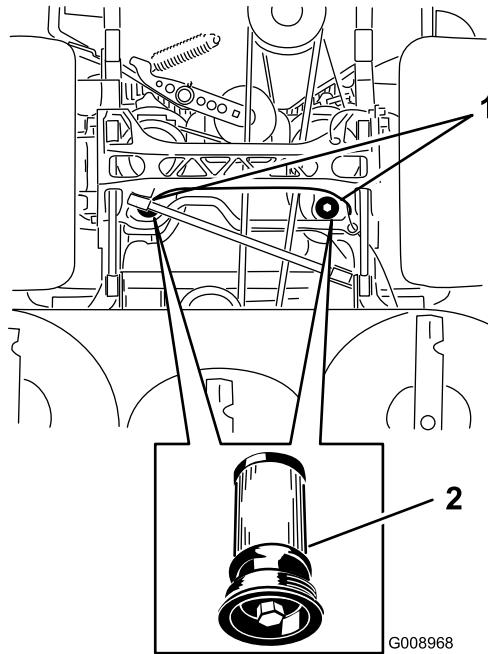

Figure 86
5. Place a drain pan under the filter, remove the old filter and wipe the surface clean (Figure 86).
6. Apply a thin coat of hydraulic oil to the rubber gasket on the replacement filter (Figure 86).